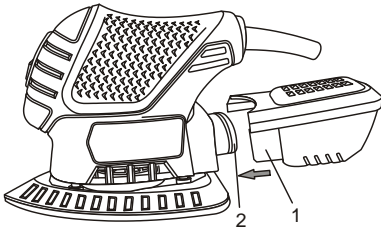

Fig. 1
1. Insert the dust duct box assembly (1) onto the dust chute (2) (Fig. 1).